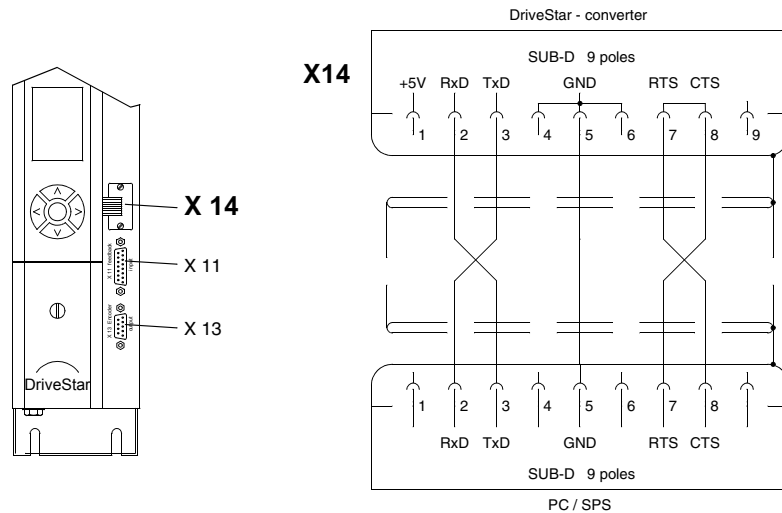

Fig. 6.19 B10-017 Connection serial interface RS 232
- X 14 RS 232, **D-DS\_1**, H-DS.1, (see Fig. 6.19, page 26)